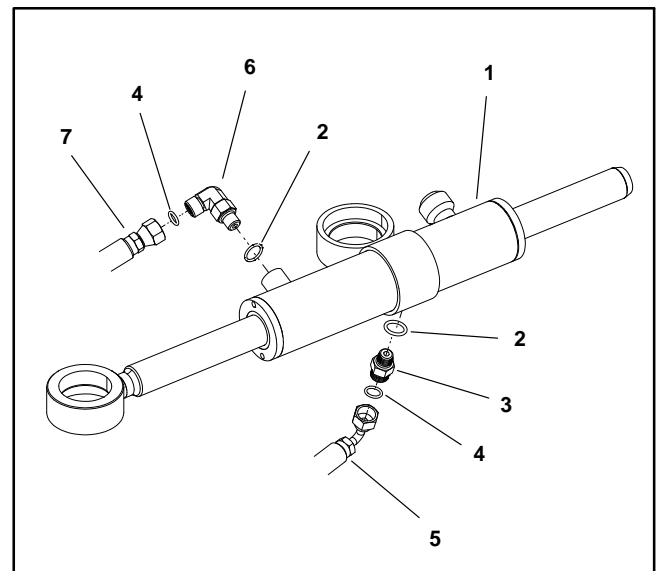

Figure 42
6. If hydraulic fittings are to be removed from steering cylinder, mark fitting orientation to allow correct assembly. Remove fittings from cylinder and discard O-rings (Fig. 42).